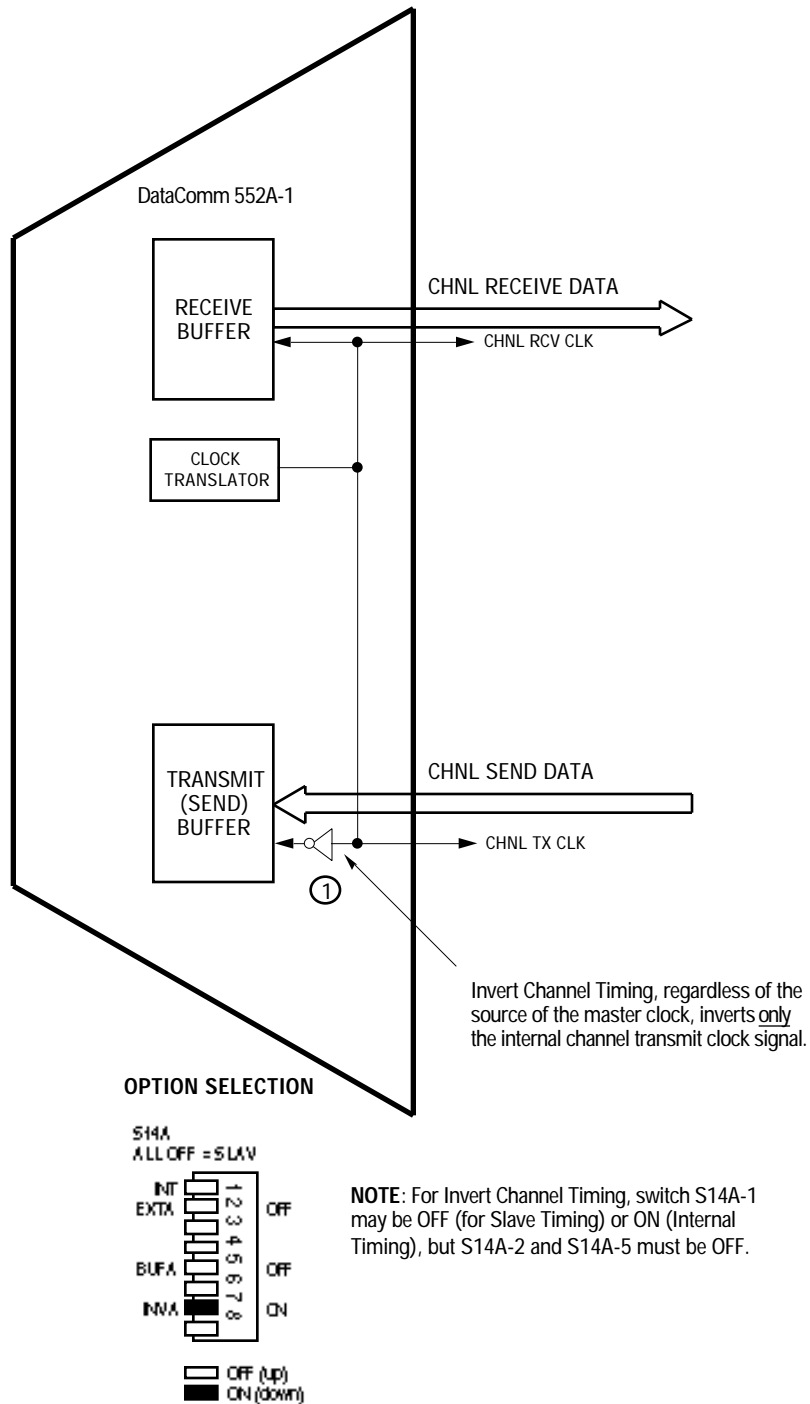

FIGURE B-3. INVERT CHANNEL TIMING
Invert Channel Timing is used with either Slave Timing or Internal Timing. The master clock is determined by the Slave Timing or Internal Timing option, and Invert Channel Timing, illustrated in Figure B-3, inverts (1) the DSU's internal channel transmit clock signal.